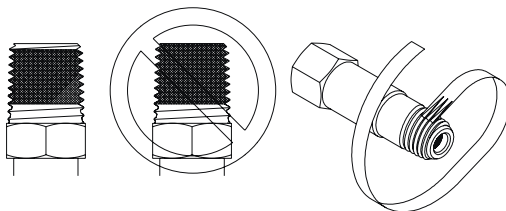

Figure 3
1. Be sure that all connections are secure and leak tight. Teflon tape should be used on pipe fittings, but avoid impinging on the gas stream. Before applying tape, inspect the NPT threads and if necessary, clean the fitting to remove any dirt or thread sealant that remains. Start the Teflon tape on the second thread as shown in Figure 3; make sure the tape does not overlap the end of the thread. As the tape is wrapped in the direction of the thread spiral (clockwise), pull tightly on the end of tape so that it conforms to the thread. Apply two overlapping layers and cut off excess tape.